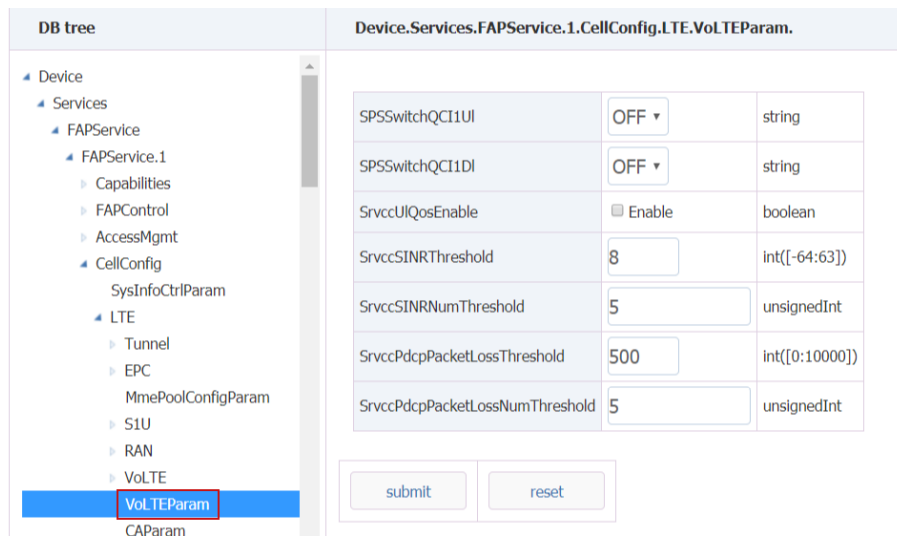

Figure 322 VoLTE business quality monitoring configuration-
- When the service quality of VoLTE falls below the threshold, the base station issues measurement and control based on B1MeasureCtrl 4 event to GSM adjacent area. This function is turned off by default and needs to be enabled by SrvccUIQosEnable, as shown in figure 322. Error: Reference source not found. See table 221 for parameter descriptions. Table 315 VoLTE service quality control configuration instructions-